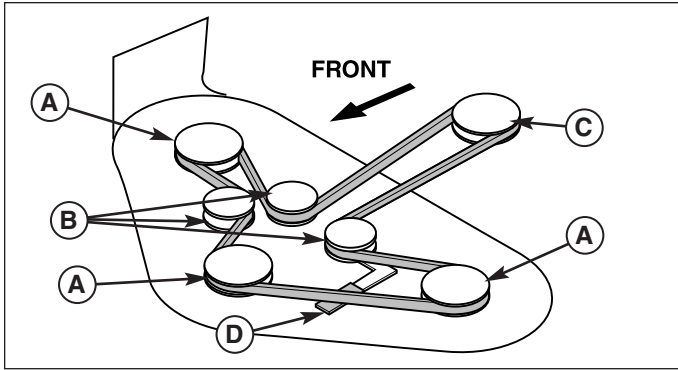

Figure 33. Mower Belt Routing
3. Raise the mower deck to transport position. Use the lever (D, Figure 33) to release tension on the mower belt and remove the belt from the PTO pulley (C).
4. Remove the old drive belt and install the new one as shown in Figure 33. Note that the back of the drive belt must ride against the back-side idler pulleys (B). Use the belt tension lever (D) to release tension on the idler pulley for installation.